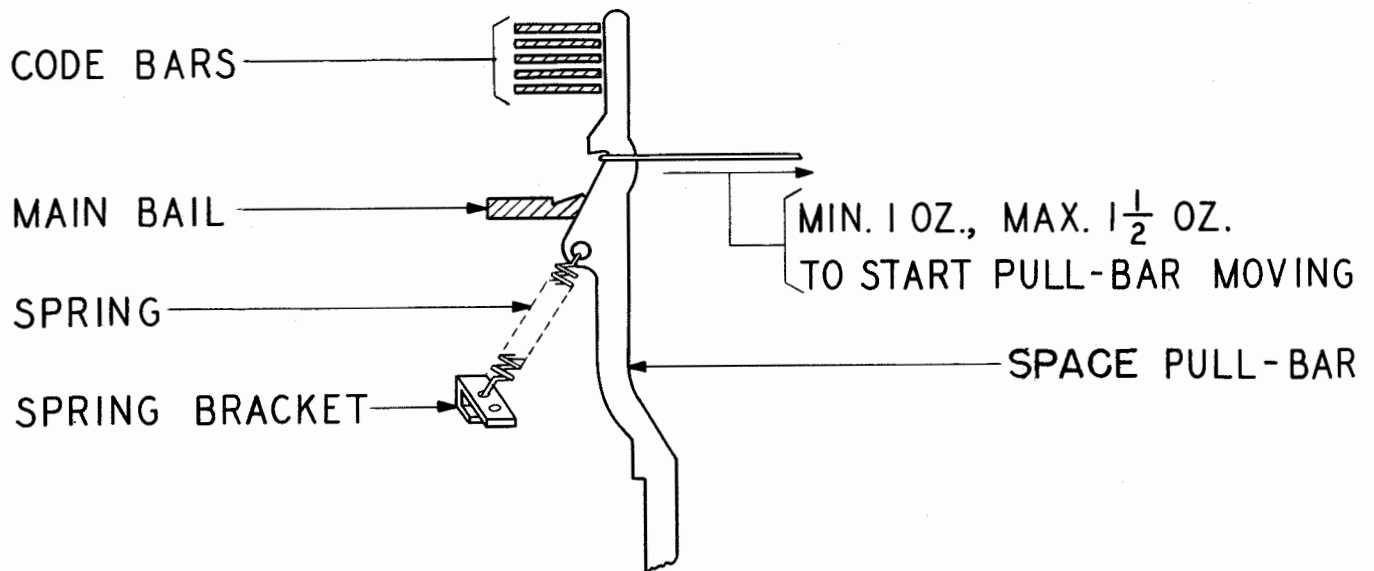

Figure 23
2.37 Left Function Pullbar Spring: It shall require a pull as indicated in Figure 23 to just start the pullbar moving when the main-bail is in its lowest position.